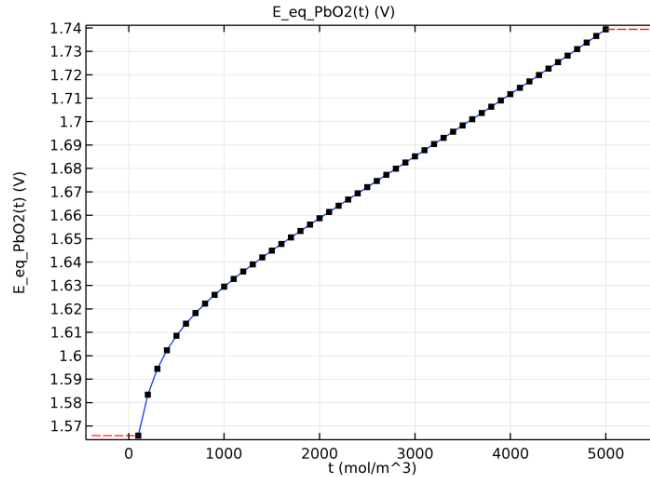

Figure 2. Equilibrium potential of the PbO2 reaction as a function of electrolyte concentration in the positive electrode.
The equilibrium potential of the electrode depends on the electrolyte concentration as shown in Figure 2.
2. **Equilibrium potentials** vs electrolyte concentration (reproduce behavior of Figures 2 & 3)